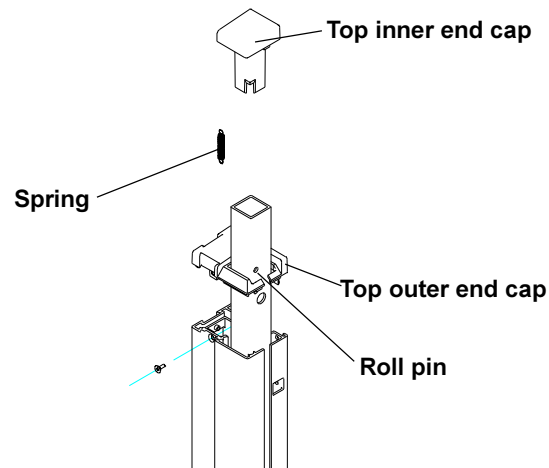

Figure 5-19
5.5 Removing the Upper End Cap Spring (Figure 5-19)